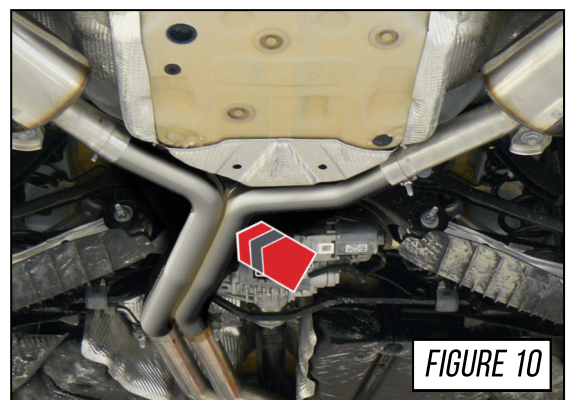

FIGURE 10
Place two (2) 2.5" Accu-Seal clamps over the inlets of the sportback axle tube (part A31) and install onto the X-pipe section, as shown by arrow in **Figure 10**.